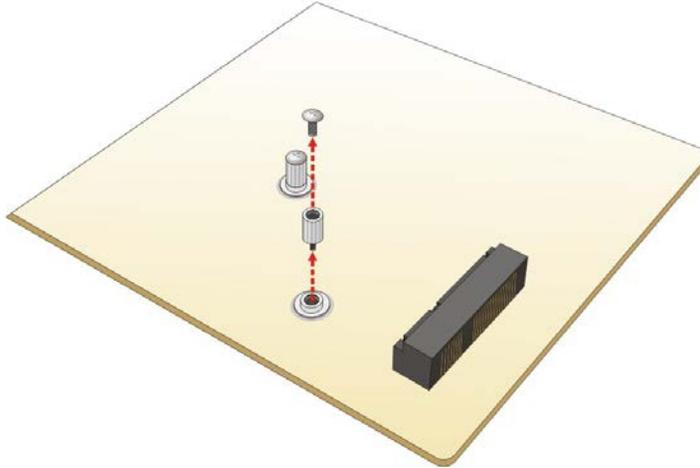

Figure 3-9: Removing the Screw and Standoff for Half-size PCIe Mini Card
Step 3: To avoid interference of the board circuit, remove the retention screw and standoff for a half-size PCIe Mini card as shown in **Figure 3-9**.